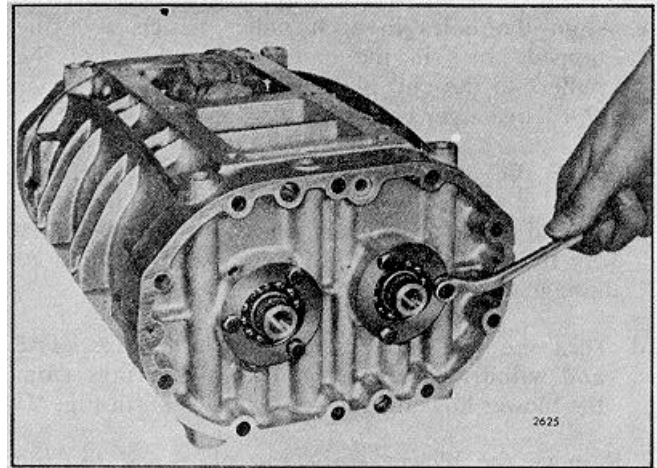

FIG. 8 - Removing Blower Bearing Retainers
4. Remove the bolts and lock washers securing the rotor shaft bearing retainers to the front and rear end plates. Remove the retainers (Fig. 8).